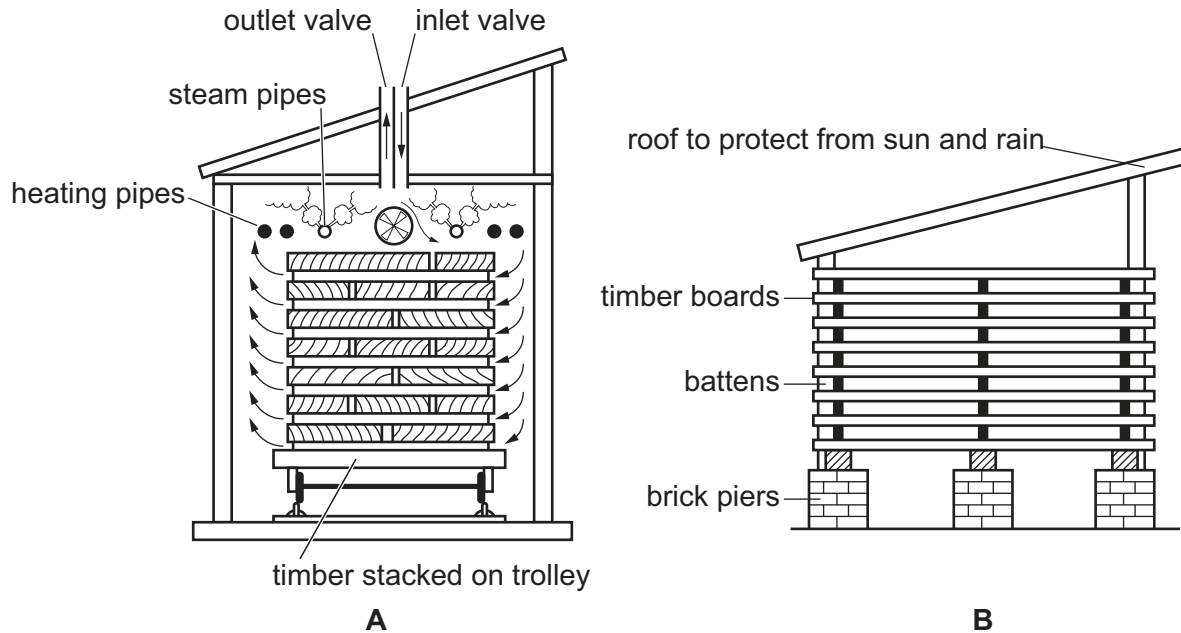

Fig. 1.1
- 1 Fig. 1.1 shows two methods of seasoning wood.